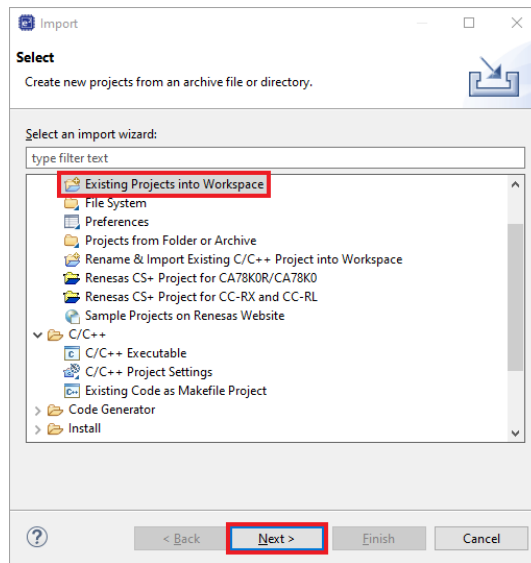

Figure 16. Selection of the Import Wizard Option
- From the Import Wizard window, select **Existing Project into Workspace** and then click on the **Next >** button (Figure 16).